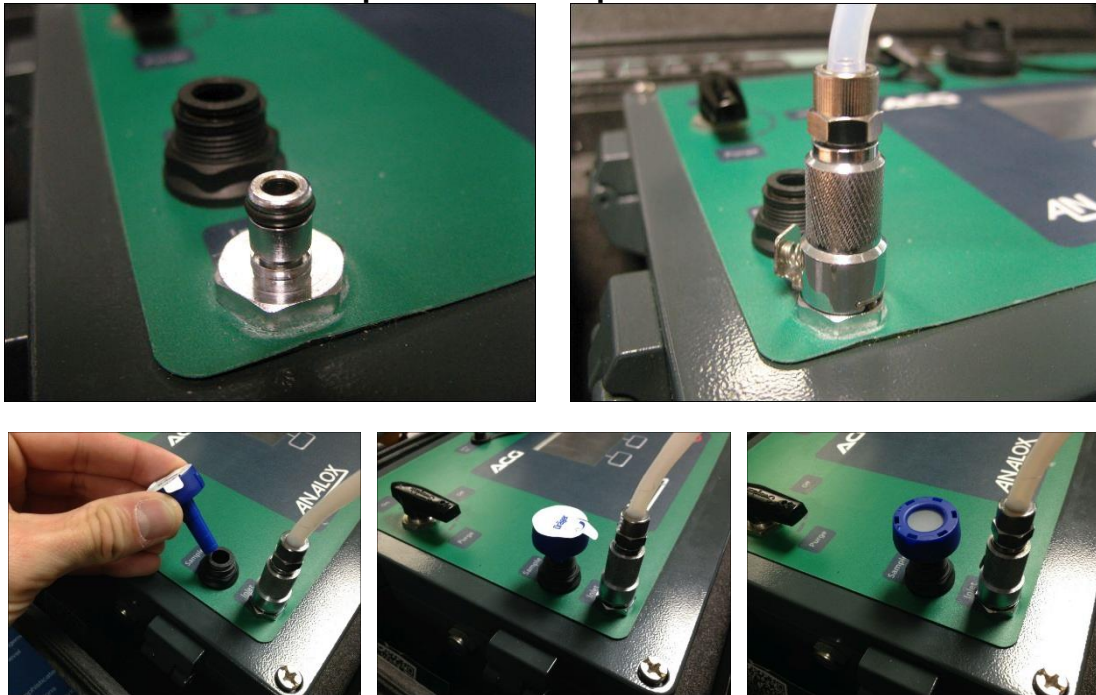

Figure 39 *A Dräger Impactor Attached to the Outlet Port for Oil Mist Testing*
- 1] Attach the target gas to the sample inlet and the measurement device or sample pipe to the gas outlet port on the ACG+ front panel (see Figure 39).